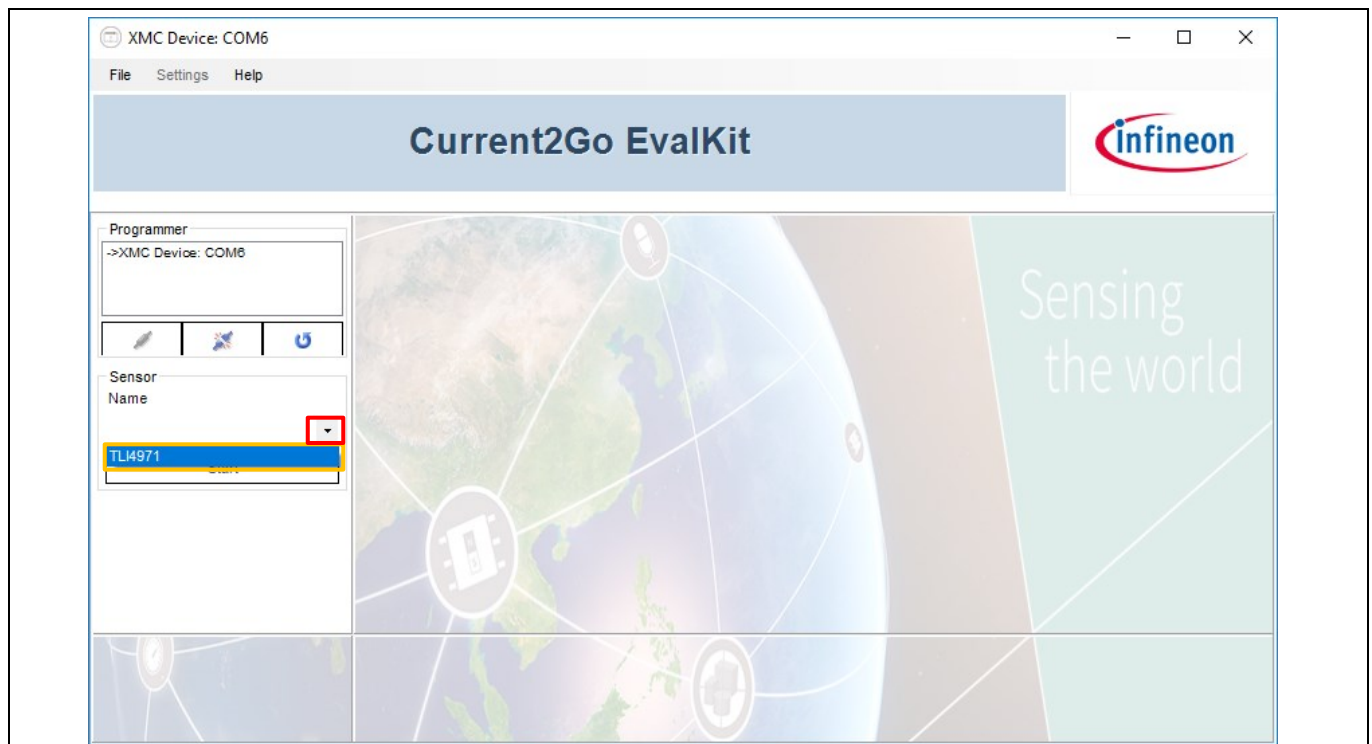

Figure 15 XMC Device: COM6 window: Sensor Selection
- Then click on the button which is highlighted in red color box of Figure 15 to select the sensor from the selection menu and then click on the sensor name (For ex: TLI4971) which is highlighted in orange color box.